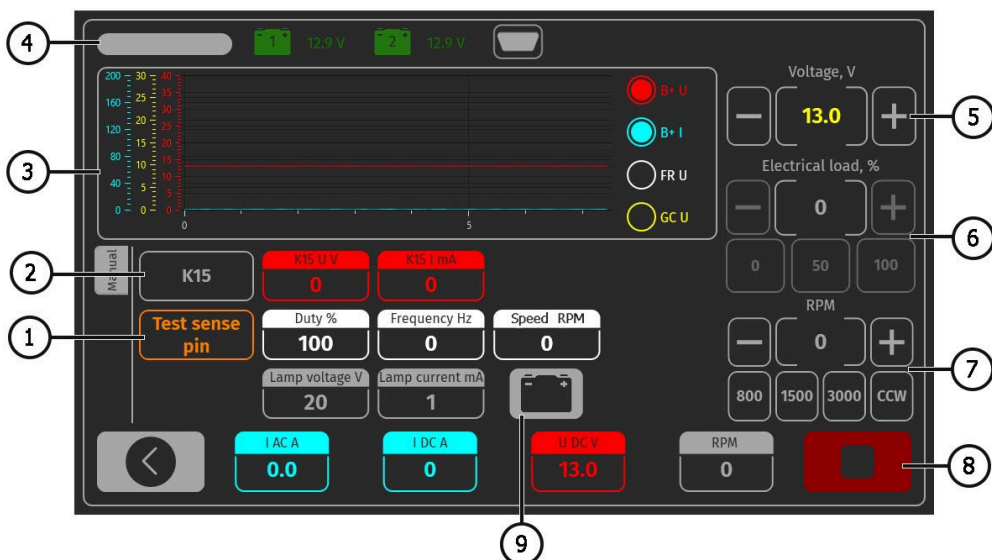

Figure 15. Alternator diagnostics menu view
When starting the diagnostics of Lamp, SIG, RLO, RVC, C KOREA, P-D, C JAPAN alternator types, the following information may be displayed (fig. 15):
3.4. If the alternator configuration includes the control lamp, its indicator shall light up (fig. 15, ref. 9).
4. Alternator drive control buttons (fig. 15, ref. 7) can be used to set the rotation speed within the limits of 100-150 rpm.
6.2*. Press the output voltage control buttons (fig. 15, ref. 5) to gradually adjust the alternator output voltage (from min. to max.). The measured voltage shall change proportionally
7.3. Press electric load control buttons (fig. 15, ref. 6) to gradually increase the alternator load. At the same time, the output voltage value shall remain constant while the alternating current value (I, AC) in the circuit B+ shall not exceed 10% of the nominated load value (e.g., at the load of 50A, the value I, AC shall not exceed 5A). The current oscillogram shall not have the big peaks, the values should vary within the equal limits.